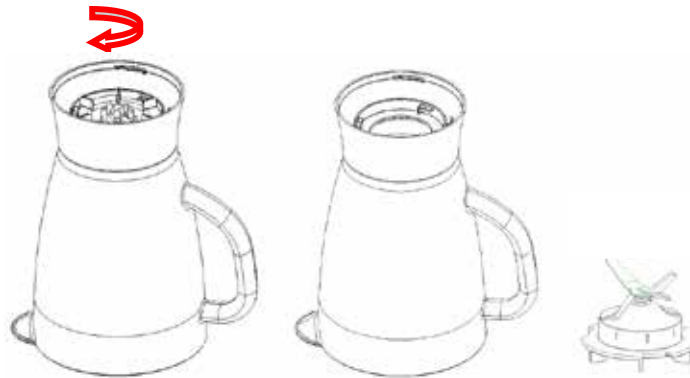

Fig.8
4. Dismantle all detachable parts. Lift the jar assembly off the motor unit, To detach the blade assembly by turning it clockwise from the jar base bottom , and remove the blade assembly (see fig.8). In addition, detach the jar cover seal ring 1 from the jar cover.